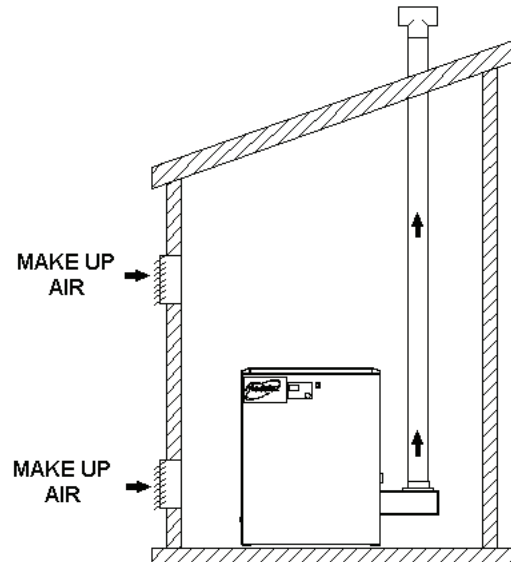

FIGURE 5
3. When combustion air is brought from outside the building, the boiler room shall be provided with two permanent openings, one commencing 12 inches from the top and one commencing within 12 inches from the bottom of the room see Figures 5 and 6. The openings shall communicate directly, or by ducts, freely with the outdoors. One of the following methods must be made to provide adequate air for ventilation and combustion.
The boiler vent is fundamental for correct operation. Being a condensing boiler, combustion gases are discharged at a very low temperature. It is therefore necessary for the venting system to be perfectly impermeable to combustion products condensate and to be made of corrosion resistant materials. Typical Category IV venting and sealed combustion illustrations are shown in Figure 5 through 8. The various funnel joints shall be well sealed and/or equipped with suitable gaskets, in order to avoid any condensate drain and/or air intake. Ensure that the boiler vent's section and height conform to national and local regulations (see 1.1 APPLICABLE FEDERAL CODES of this guide).